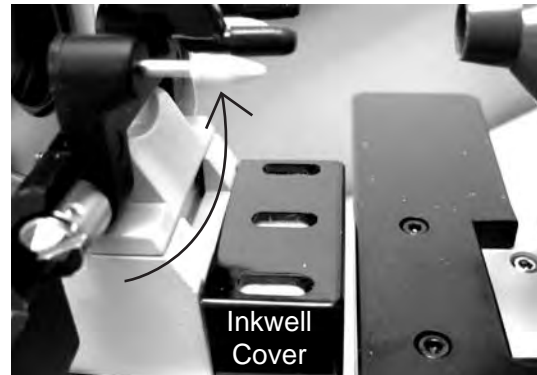

Figure MM-01 Rotate Marking Pens Up
1. Rotate the Marking Pens up so that the Inkwell Cover is accessible. Refer to Figure MM-01.